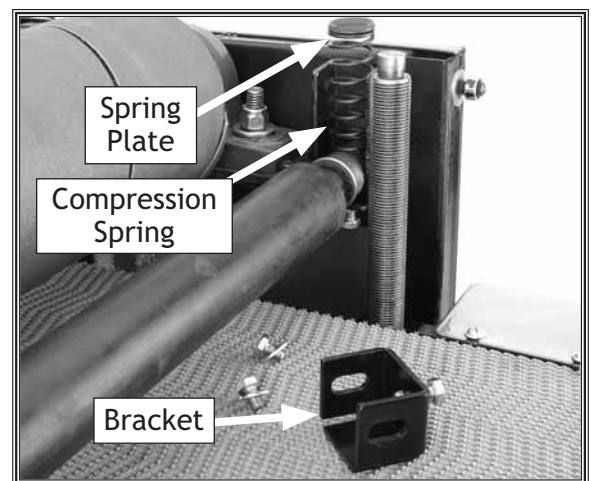

Figure 44. Rear pressure roller components.
6. Remove the rear pressure roller (four hex bolts and four flat washers) along with the brackets, compression springs, and spring plates shown in Figure 44.